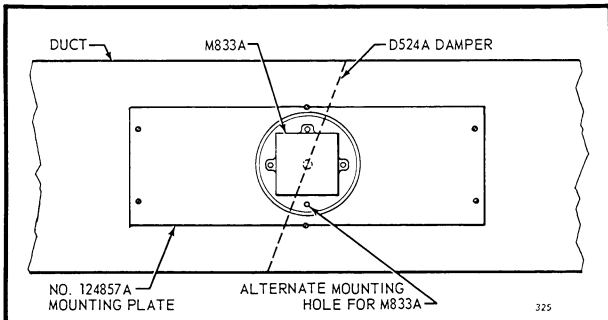

Fig. 1 — Damper installed in a typical zone control system using the M833A. Motor shaft rotates clockwise to open damper.
Fig. 2 — Typical damper and linkage arrangement for a single actuator face-and-bypass (mixed air) forced air heating or heating-cooling system using the M833A. Motor shaft rotates clockwise to open face damper, close by-pass damper. See Note after Fig. 1.
Fig. 3 — Damper installed in a typical zone control system using the M835A. Motor shaft rotates counterclockwise to open damper. Note after Fig. 1 also applies to M835A.
**STEP 13** If M833 Damper Actuator is used, attach it to the 124857A Mounting Plate with the three long screws supplied with the M833 (these screws extend into the duct and act as stops, limiting damper travel). See note after Fig. 1, page 2. Follow installation instructions packed with M833.
If M835 Damper Actuator is used, attach it to the 124857A Mounting Plate with the two mounting screws supplied with the M835. For alternate mounting positions, see NOTE after Fig. 1, page 2. Follow installation instructions packed with M835.